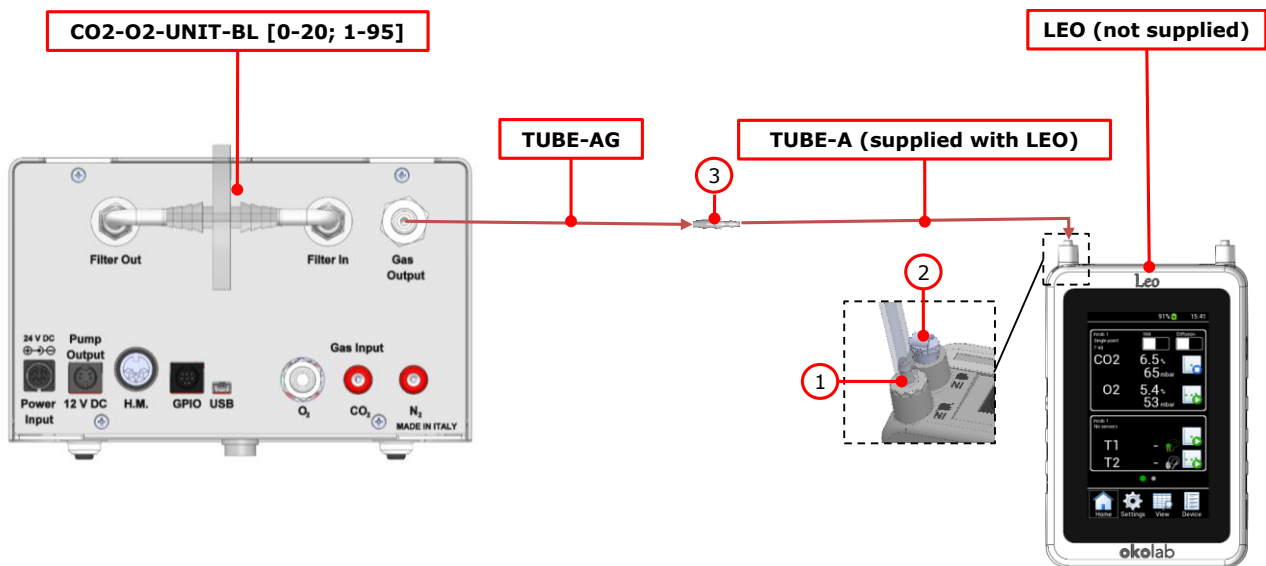

Figure 45. External Gas Meter Connection.
1. Connect the TUBE-AL to the TUBE-A (supplied with LEO, Figure 44), using the Fitting tube (3 in Figure 45) supplied with LEO.
2. Connect the TUBE-A to LEO Gas Inlet port labeled with icon  (1 in Figure 45).
3. Put the cap on LEO Gas Input port labeled with icon  (2 in Figure 45).